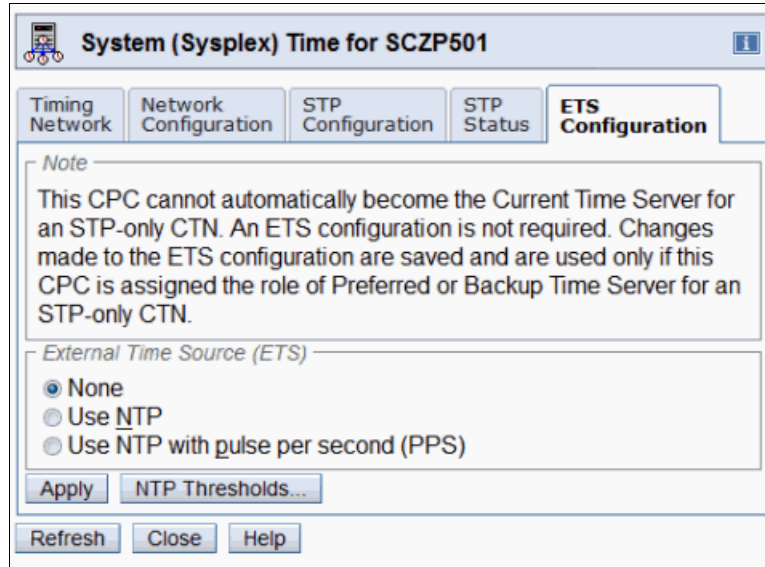

Figure 9-30 System (Sysplex) Time: ETS Configuration tab
1. Click the **ETS Configuration** tab (Figure 9-30).